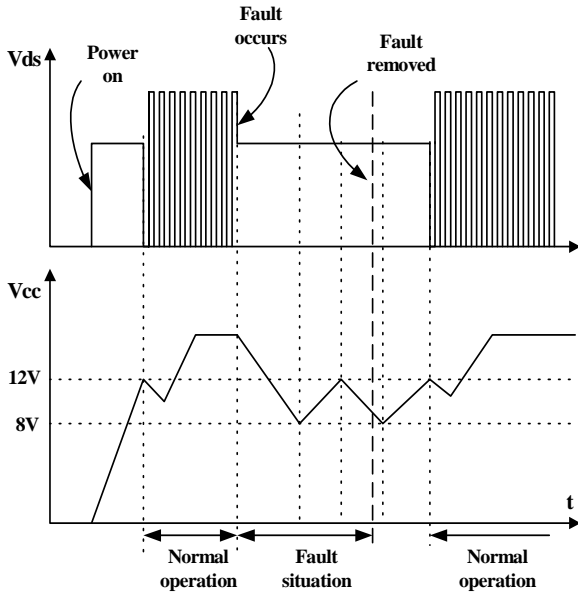

Figure 6. Auto restart operation
3. Protection Circuit : The FSDM0565R has several self protective functions such as over load protection (OLP), abnormal over current protection (AOCP), over voltage protection (OVP) and thermal shutdown (TSD). Because these protection circuits are fully integrated into the IC without external components, the reliability can be improved without increasing cost. Once the fault condition occurs, switching is terminated and the Sense FET remains off. This causes Vcc to fall. When Vcc reaches the UVLO stop voltage, 8V, the protection is reset and the internal high voltage current source charges the Vcc capacitor via the Vstr pin. When Vcc reaches the UVLO start voltage, 12V, the FPS™ resumes its normal operation. In this manner, the auto-restart can alternately enable and disable the switching of the power Sense FET until the fault condition is eliminated (see figure 6).